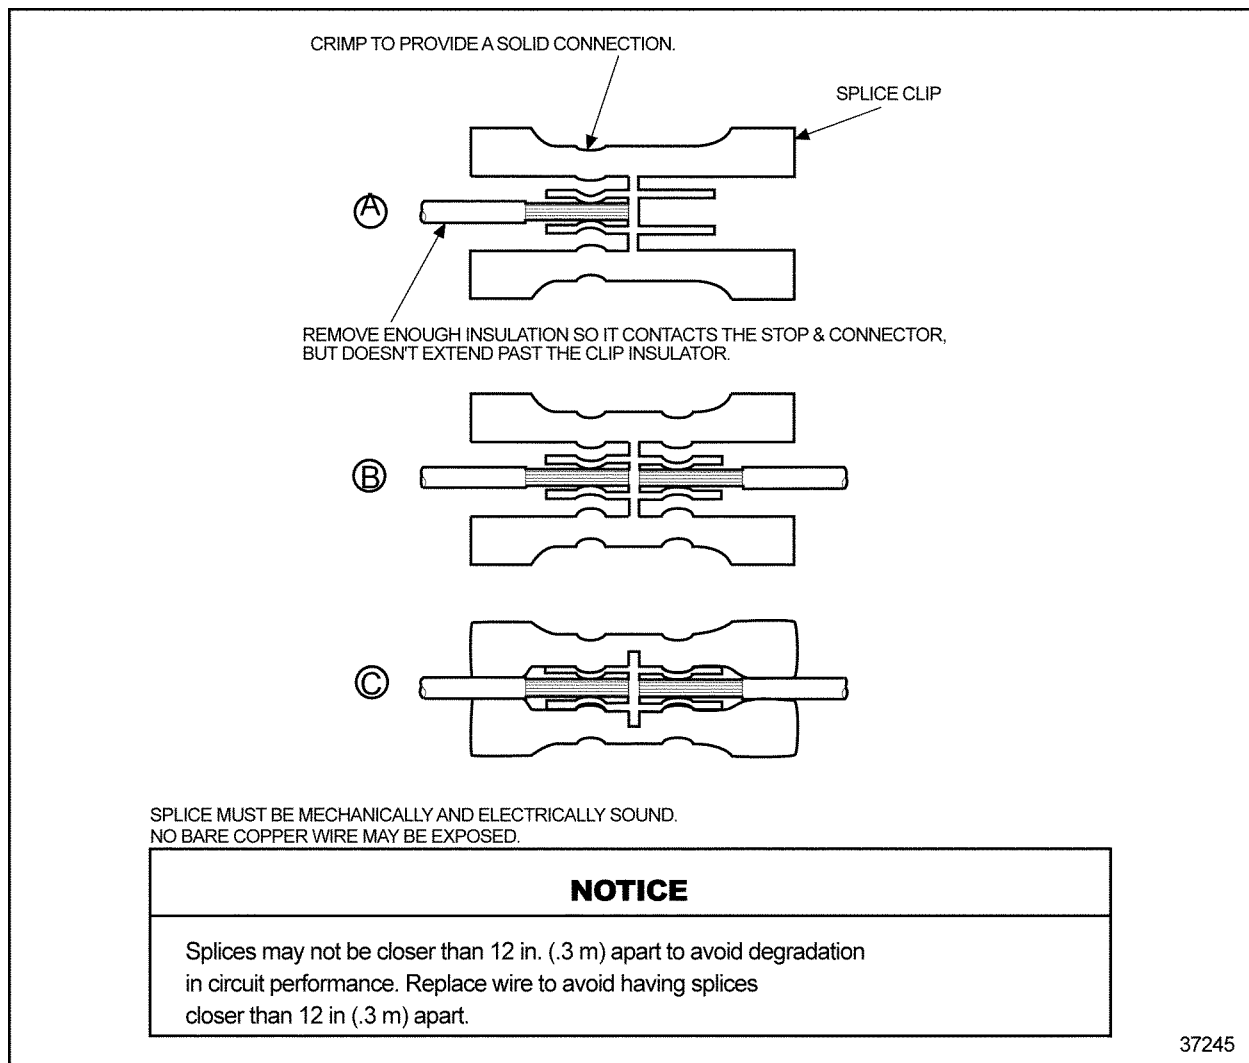

Figure 16-44 Splicing Straight Leads - Alternate Method 1
3. Insert one wire into the splice clip until it butts against the clip. Stop and crimp (see Figure 16-44, A).
4. Insert the other wire into the splice clip until it butts against the clip stop (see Figure 16-44, B).
7. Shrink the splice clip insulative casing with a heat gun to seal the splice (see Figure 16-44, C).